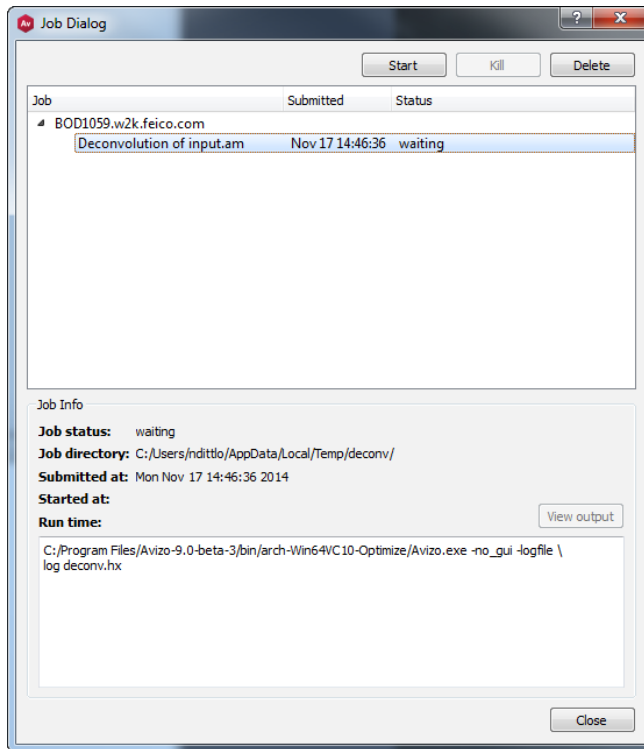

Figure 3.47: The Avizo job dialog showing a pending deconvolution job.
- Press the *Submit* button of the deconvolution dialog. After a few seconds the Avizo batch job dialog appears, compare Figure 3.47.